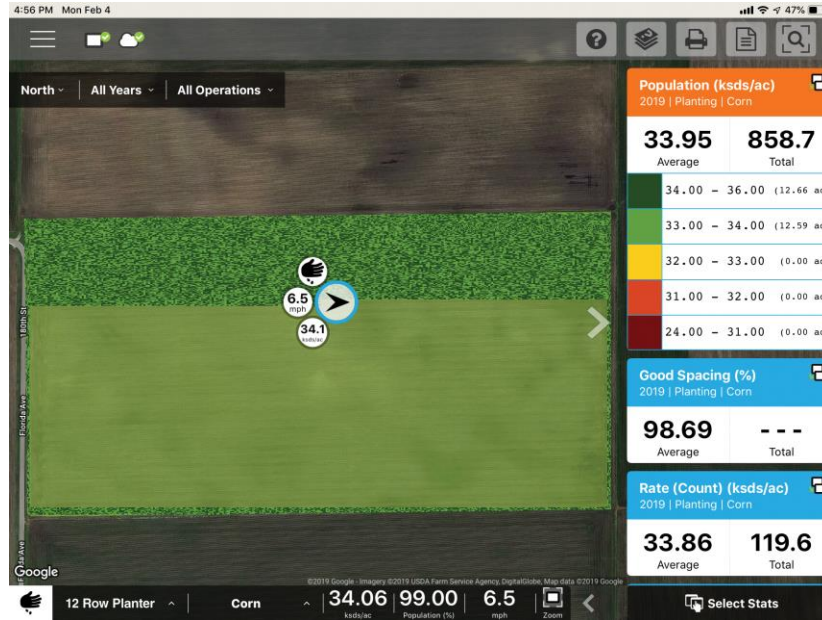

Figure 1 – Live maps from InCommand® in AgFiniti® Mobile
- **NEW:** Live planting maps available in AgFiniti® Mobile from displays unlocked for DisplayCast® (March 2019 AgFiniti® Mobile release required) (Figure 1)
- **NEW:** Display alert history to track alarms and notifications (Figure 1)